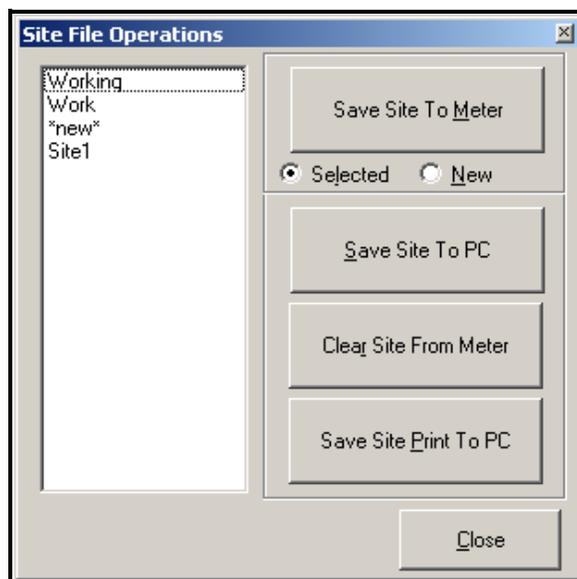

Figure 31: The Site File Operations Window
To access site files, click on the Site Files button in the *Properties* window. The *Site File Operations* window (shown in Figure 31) opens.
1. Highlight the desired site in the left pane. (See Figure 31 on page 115.)
1. Highlight the site in the left pane. (See Figure 31 on page 115.)